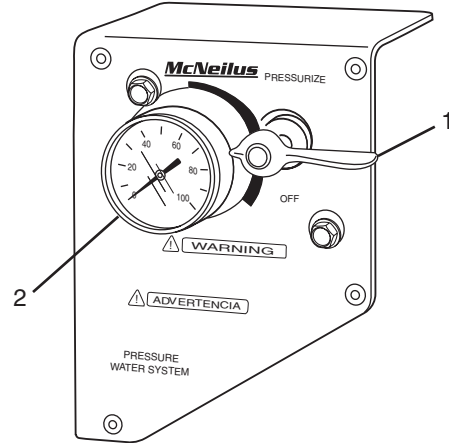

Figure 38
1. Turn air pressure control valve to the EXHAUST position (Figure 38, Item 1). Make sure the gauges (Figure 38, Item 2) read 0 psi.